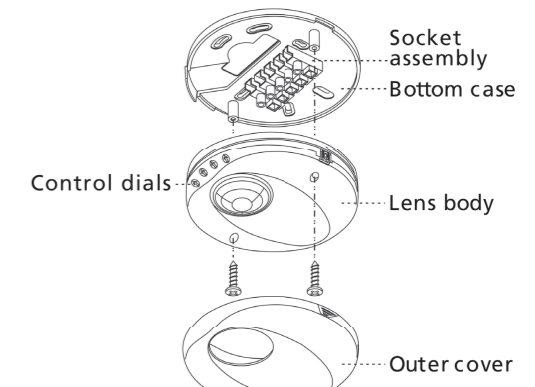

Fig. 8
- 3.3.3** Remove cardboard and screws used to assemble and fix the sensor (see Fig. 8).
3.3.5 Insert the lens body pins into the bottom case contacts, fasten it with screws firmly and snap on the outer cover (see Fig. 8).